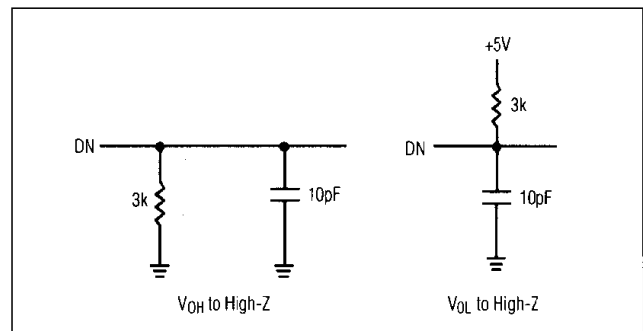

図2. トライステート出力タイミング用負荷回路
**Note 5:** tTR is the time required for the data lines to change 0.5V, measured with load circuits of Figure 2.